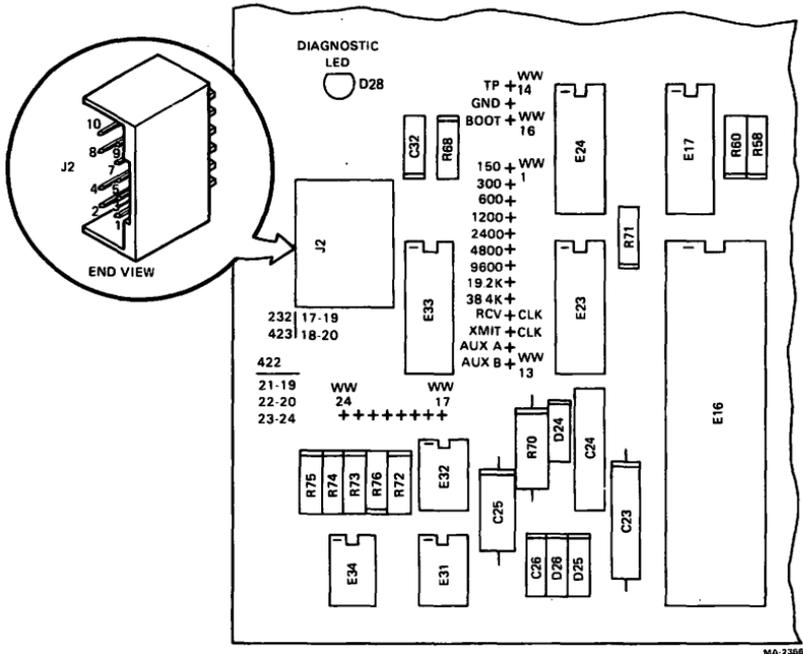
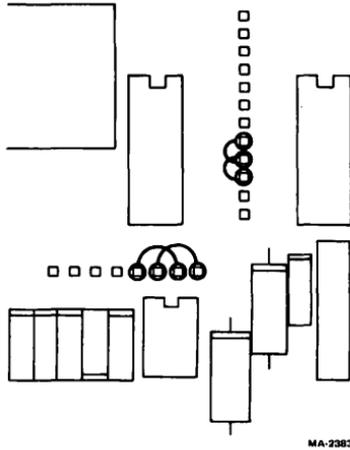

Figure 13 Interface Selection Jumper Pin Locations
Figure 14 Factory Wiring
The TU58 is shipped with factory-installed jumpers for a transmission rate of 38.4 kilobaud and the RS-423 unbalanced line interface (Figure 14). A variety of standards and rates may be selected by changing the jumpers on the controller module. Table 5 provides a list of all the pins on the board and their functions, including the wire-wrap (WW) pins, interface, and power connectors.
The baud rates may be set independently for transmission and reception, or both can operate together. Simply connect the pin with the desired baud value to either the XMIT or RCV pins or both. Figure 13 illustrates the pin locations, and Figure 14 shows the factory-wired configuration.
The interface standards may be selected by connecting sets of pins together. The connections are listed in abbreviated form in Figure 13. The group of pins 17 through 24 are the interface pins. The module is shipped prewired for RS-423 with pin 17 connected to pin 19, and pin 18 connected to pin 20. No other pins in the group are connected.